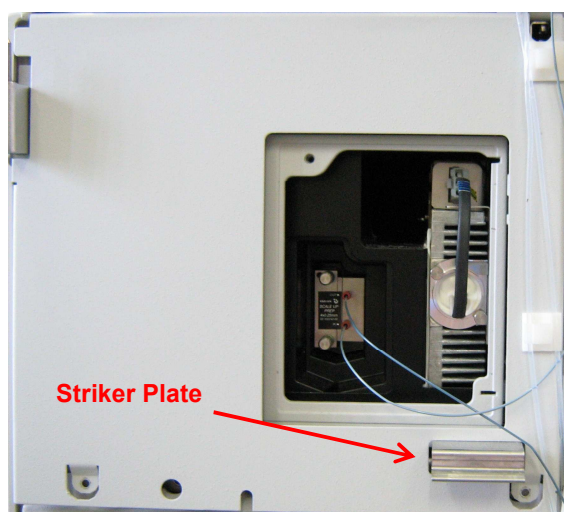

Figure 6: Absorbance Detector door removed
7. Remove the door of the absorbance detector and remove all of the attached plumbing that may restrict you from removing the top left hand quadrant panel. *Figure 6* below shows the absorbance detector door removed. The plumbing into the flow cell has to be removed along with any other plumbing attached to this panel.